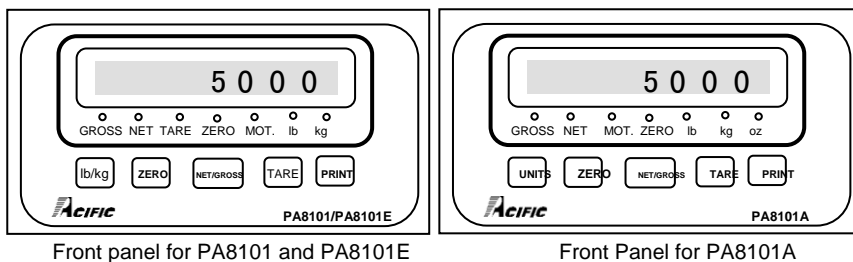

Fig.1 Front Panel Diagram
2.1.1 Front Panel. (See Fig. 1)